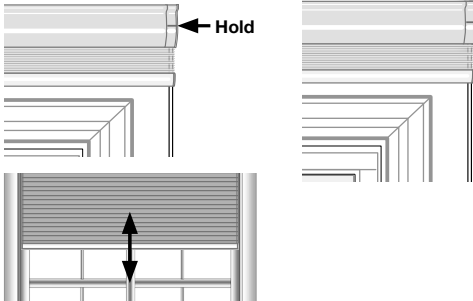

Fig. 4
B. Press and hold the program button on the headrail/motor end until the LED flashes green (about 3 seconds), and release. (Fig. 4.) The shade will jog and all LED's will turn off. The shade will now operate from the newly added remote.